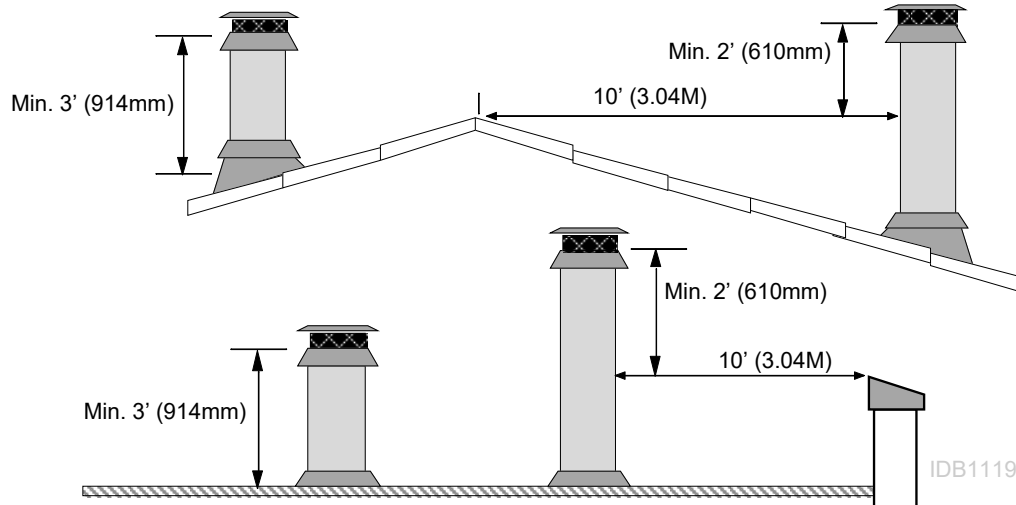

Figure 3
- Must terminate at least 3' (914mm) above the roof and at least 2' (610mm) above any portion of the roof within 10' (3.04M) - see Figure 3.